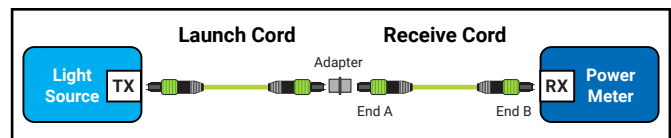

Figure 8b: Verify the receive cord
7. Connect the receive cord between the power meter and launch cord using the test adapter (see Figure 8b).